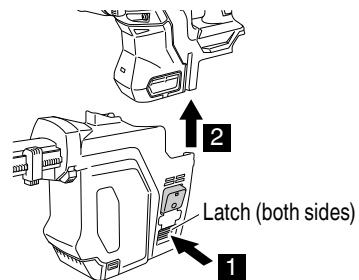

Fig. 4
- (2) Removing the dust extractor system (Fig. 4)